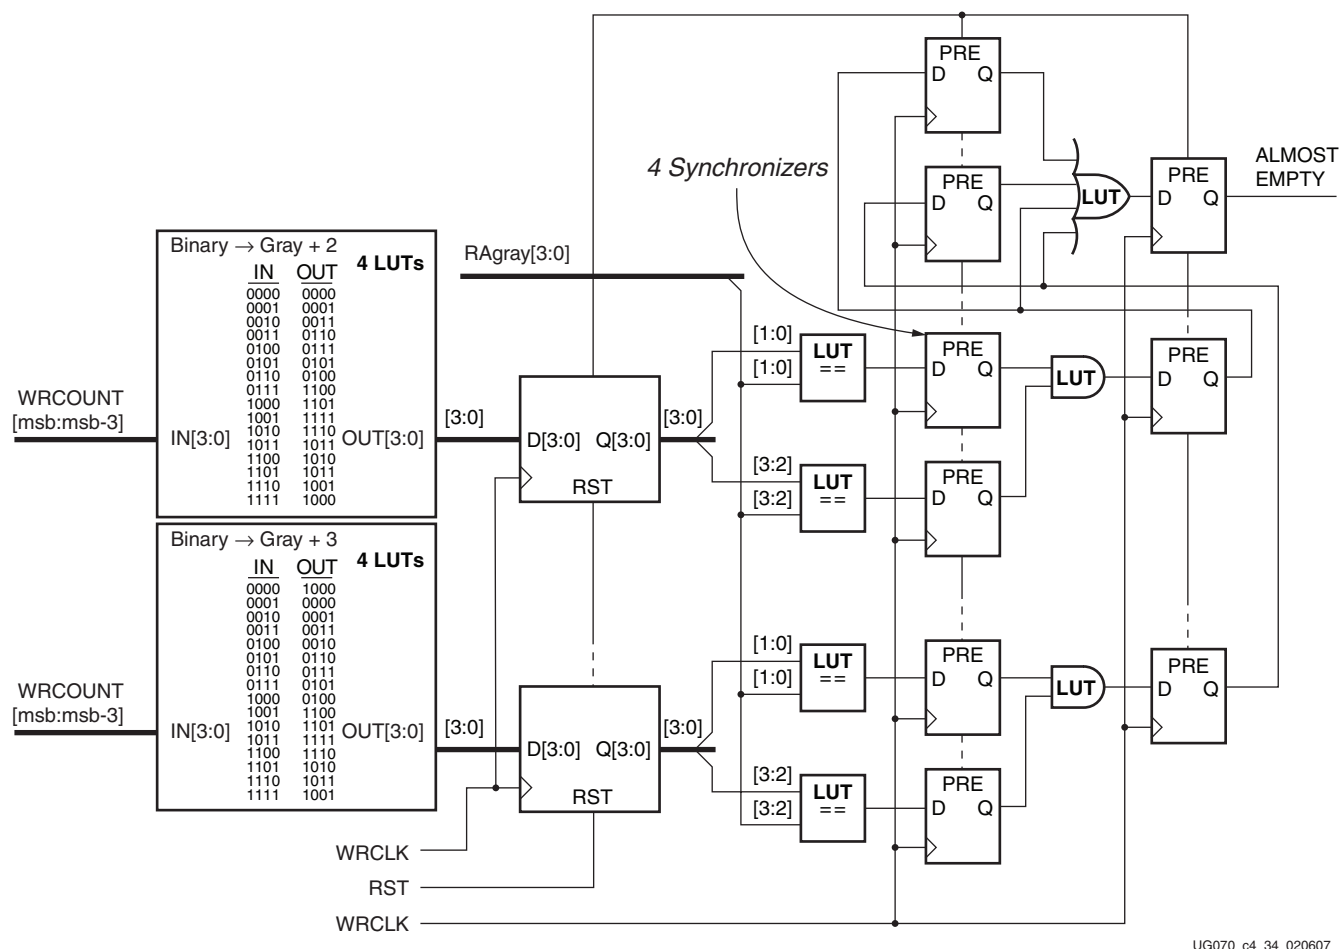

Figure 4-33: ALMOSTEMPTY Flag Generation
The ALMOSTEMPTY flag goes true if the current read sector is equal to the current write sector, or if the current read sector is equal to the current write sector – 1. ALMOSTEMPTY flag is generated similar to the ALMOSTFULL flag and is shown in Figure 4-33.
- Clearing of the ALMOSTEMPTY flag occurs between 3 and 4 RDCLK periods after an equality goes false in Figure 4-33.